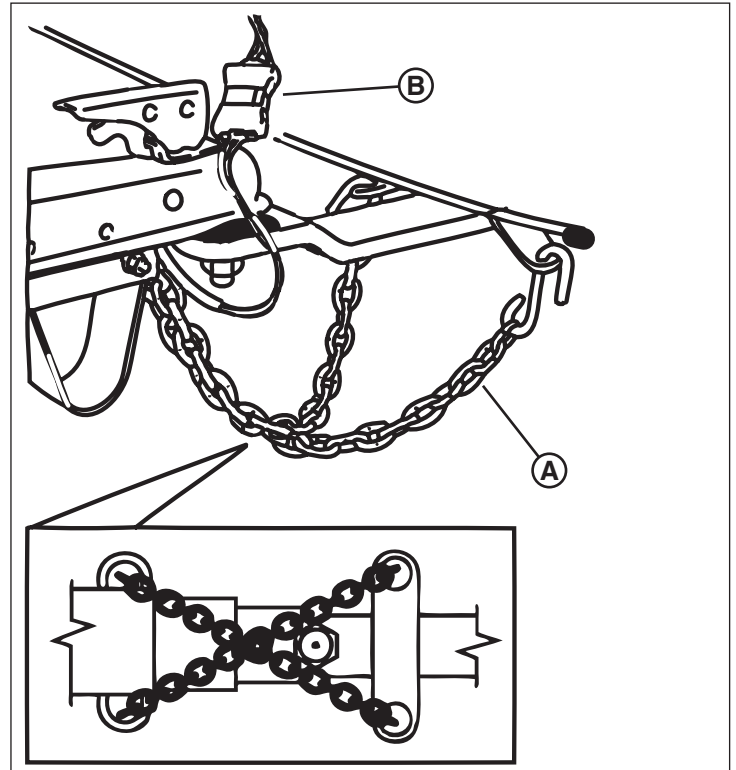

Figure 11
6. Attach the safety chains (A, Figure 11) to the tow vehicle’s hitch frame. Cross the chains under the tongue as shown in Figure 11. Leave enough slack in the chains to allow for turns, but not so much that the chains will contact the road surface.
7. Connect the trailer lighting connector to the tow vehicle’s connector (B, Figure 11). Make sure the trailer lighting harness has adequate length to prevent disconnection when turning, but not so much length that the harness will contact the road surface. Check the stop, turn signal, tail, side marker and license plate lamps for proper operation.